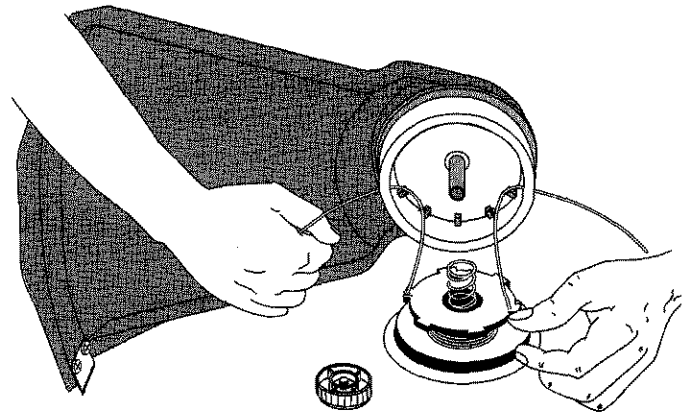

Fig. 21
9. Place the spring in the inner reel. Insert the ends of the line through the eyelets in the outer spool and place inner reel inside the outer spool (Fig. 21). Push the inner reel and outer spool together. While holding the inner reel and outer spool, grasp the ends and pull firmly to release the line from the holding slots in the spool.
5. Insert the ends of the line through the eyelets in the outer spool (Fig. 21).